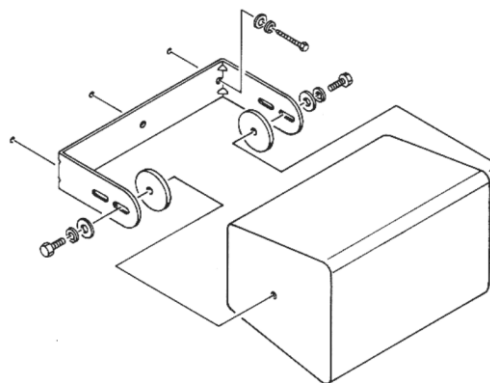

Figure 1
Step 3. Place the speaker between the U-Bracket's arms. Insert a hex bolt, flat washer and lock washer (must match the speaker's thread) through the desired slot in one of the arms with the sound isolation gasket, (select either a 1/8", 1/4" thick or both per end), threading the bolt into the loudspeaker. Repeat on the other side of the speaker. (See figure 1) Do not fully tighten yet.